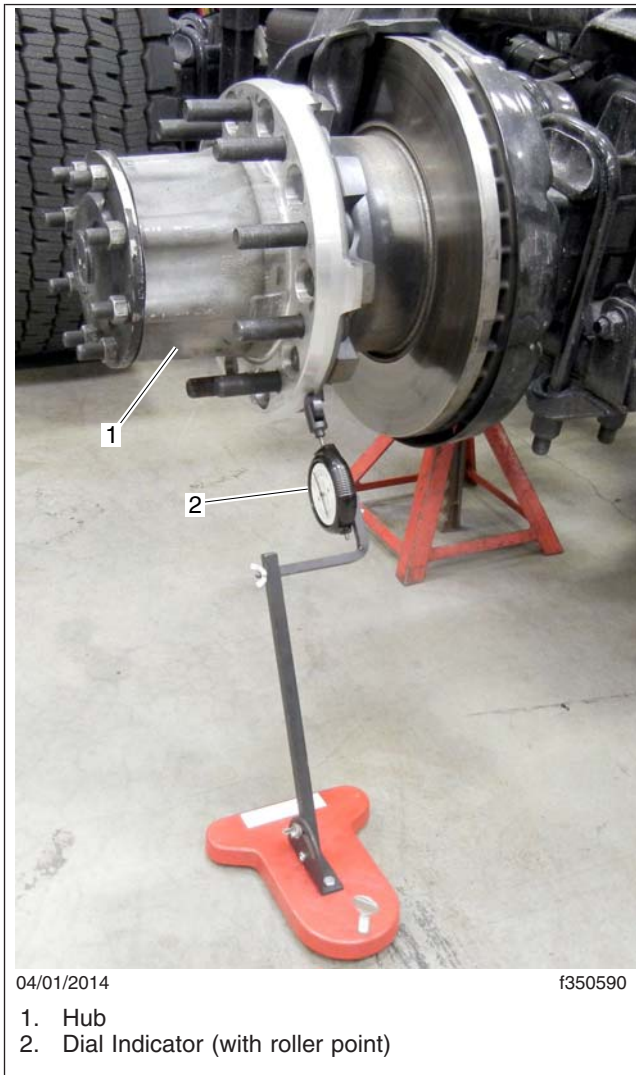

Fig. 2, Setup to Measure Radial Runout
4. Clean the hub surfaces where the measurements will be taken—see Fig. 1 and Fig. 2.
6. To measure radial runout, set up a dial indicator as shown in Fig. 2, then turn the hub one revolution and note the highest and lowest